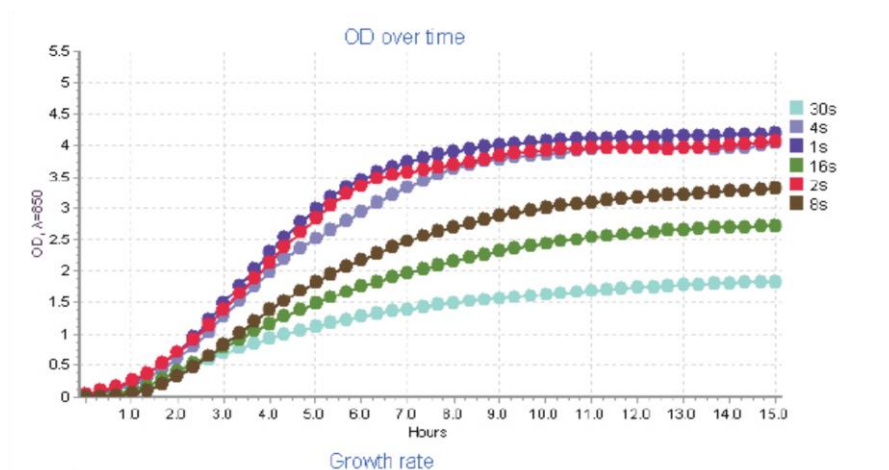
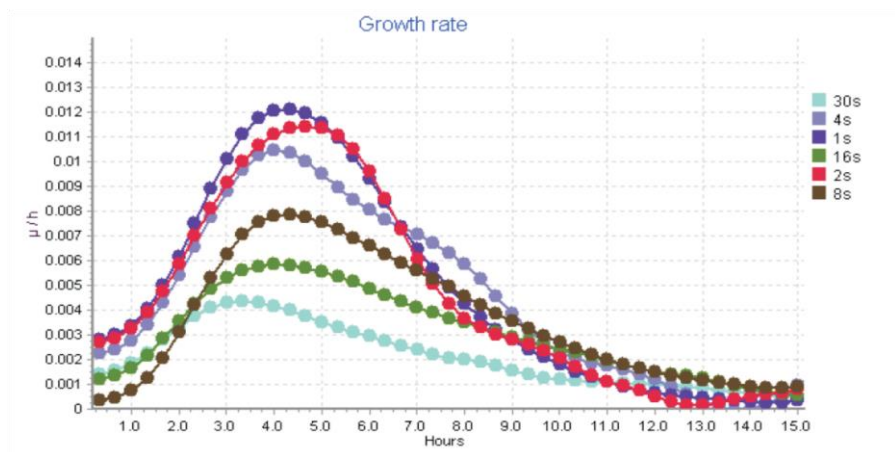

Fig 5. Influence of Frequency of Reverse Spinning on the Growth kinetics ($\Delta OD(\lambda=850\text{nm})/\Delta t$) vs Time of fermentation (hrs).
Fig 6. Influence of Frequency of Reverse Spinning on the Growth kinetics ($\Delta OD(\lambda=850nm)/\Delta t$) vs Time of fermentation (hrs).
It is known that aeration affects the growth and growth rate of aerobic microorganisms. The reverse spin frequency affects the rate of oxygen uptake in the bioreactor. Results obtained indicate that the maximum rate of cell division is detected at a frequency of 1 Reverse Spin per second (1 s^{-1}) at a speed of 2000 rpm. The increase of pause between reverse spins reduces cell growth rate, reaching 50% of the maximum value, when RS frequency is 30 s^{-1} (see Fig 5. and Fig. 6.).
7.2.1. Legend of experiment (Fig. 5.): Real Time Cell Growth Logger RTS-1C was used with 850 nm LED, volume of LB media in 50 ml Falcon tube is approximately 15 ml, Reverse Spin Frequency 1, 2, 4, 8, 16, 30 s^{-1} , measurement frequency (MF) is approximately 10 min^{-1} , reactor rotation speed 2000 rpm, temperature 37°C , diameter of filter pores (for aeration) $0.25 \mu\text{m}$.